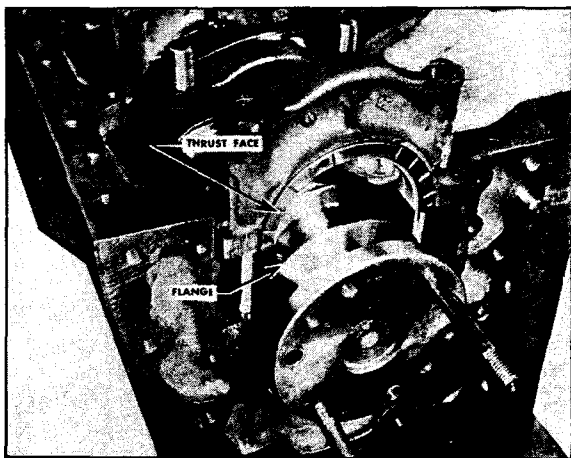

Fig. 12-5. No. 7 main bearing cap and lower thrust rings
9. Place thrust rings on each side of No. 7 cap with rings in counterbored recesses and secured by the dowels. No. 7 cap is also dowelled to the block. Fig. 12-5.